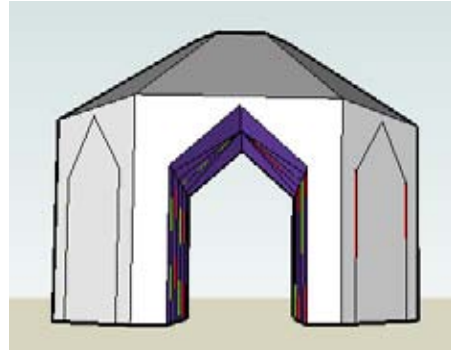

Figure 3-25
13. Remove all of the faces inside the passageway so that you have a smooth, peaked opening straight through (Figure 3-25).